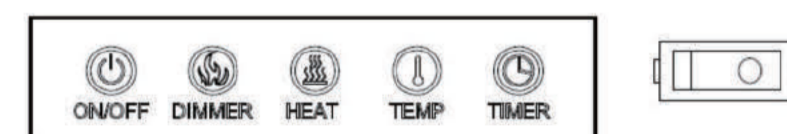
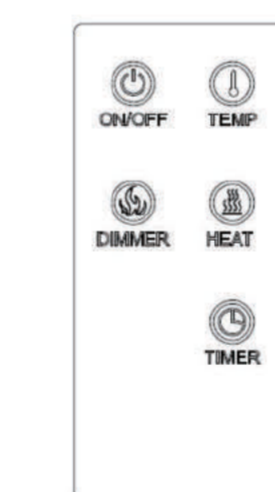

Fig.3
Fig.4
- Using the remote control(Fig.4), functions same as control panel(Fig.3).